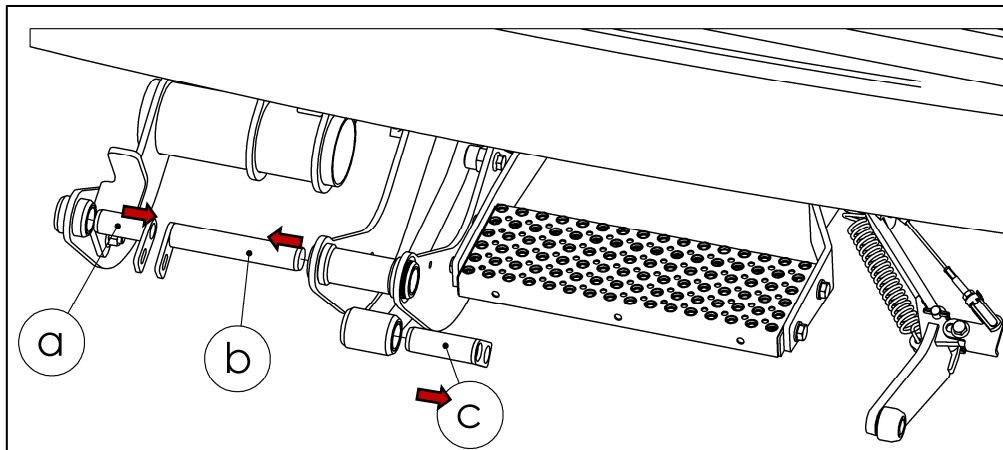

Fig. 48
- Remove the pins (a, b, c) (see Fig. 48).